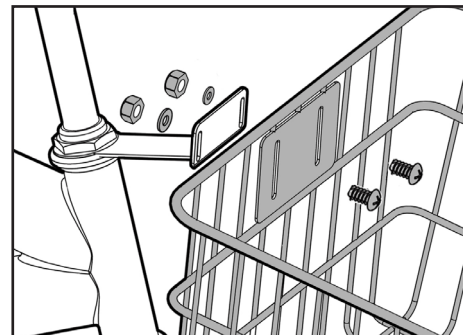
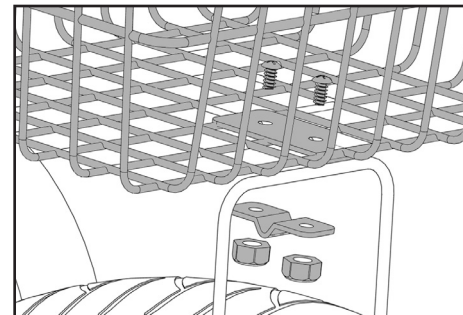

Figure 38
Figure 39
To install the basket onto the front of your bicycle, first you must remove the stem and handlebars from your bicycle. Use the appropriate (C) Allen Wrench to loosen the stem bolt on the stem, being careful not to unscrew the stem wedge completely from the stem bolt. Once it is loose enough, remove the stem and handlebars by pulling the stem up and out of the head tube. Then, use the (E) Standard Slip Joint Pliers to loosen the topmost nut from the headset. Place the stem basket mount around the steer tube, then replace the topmost headset knut, and tighten it with the (E) Standard Slip Joint Pliers. Reinsert the stem and handlebars, line them up correctly with the tire, and retighten the stem bolt. Now, line up the slots on the basket with the slots on the basket mount, insert the basket mount bolts, slide a washer and locknut onto the bolts, and tighten the nut and bolt using the (E) Standard Slip Joint Pliers and (C) Allen Wrench (see Figure 38).
Then, you must install the dropout basket mount. Line up the eyelets on the mount with the appropriate holes (see Figure 38), and insert and tighten the provided bolts to secure the mount to the drop outs. Place the mount bracket around the dropout basket mount, line it up with the holes in the bottom of the basket, and insert the provided bolts through the holes in the basket and the bracket, and fasten a locknut on the bolt on the underside of the basket (see Figure 39).